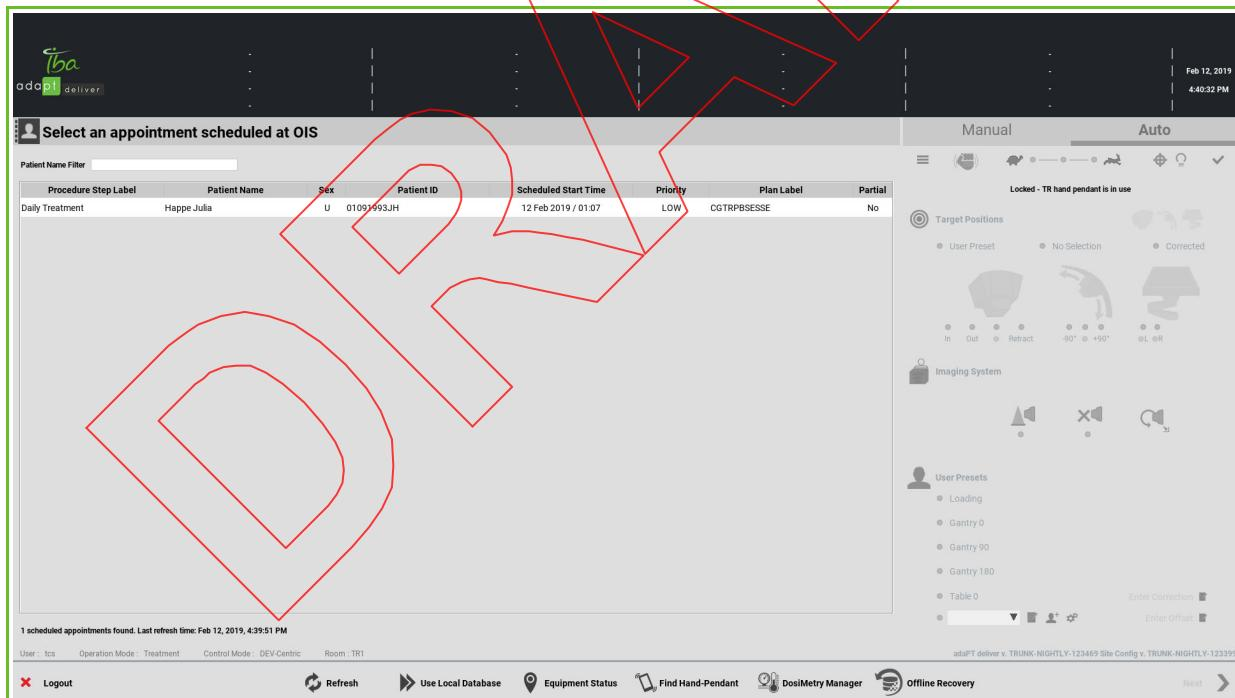

Figure 40-1. Appointment Selection Screen
3. Click on the corresponding line in adaPTdeliver to select it, and then click **Next** (Figure 40-1).